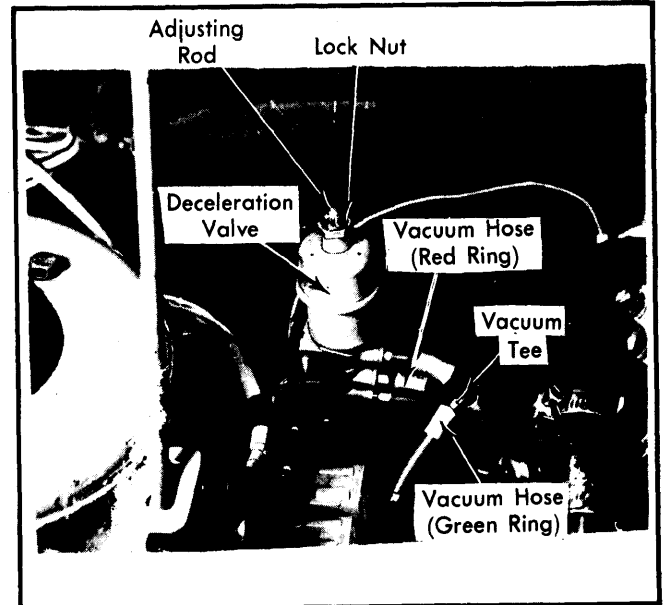

Fig. 4 505 Deceleration Valve Adjustment
3) If engine speed returns to idle with hose off, check vacuum hose routing and condition of hoses. Disconnect green ringed hose from vacuum tee. Disconnect red ringed hose from deceleration valve and connect it to vacuum tee where green ringed hose was removed. See Fig. 4. If linkage between deceleration vacuum unit and throttle flap does not move, replace vacuum unit. If linkage moves, adjust deceleration valve. If adjustment does not correct problem, replace valve.